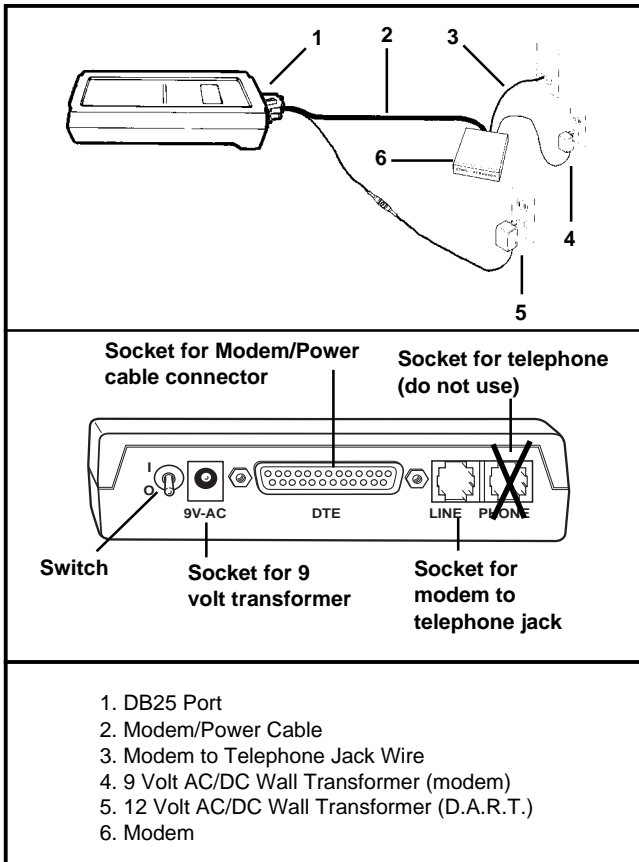

Figure 1.17: D.A.R.T. and Modem Setup
- Connect the D.A.R.T. to the modem as illustrated in Fig. 1.17. Supply power to the modem with the 9 volt wall transformer.